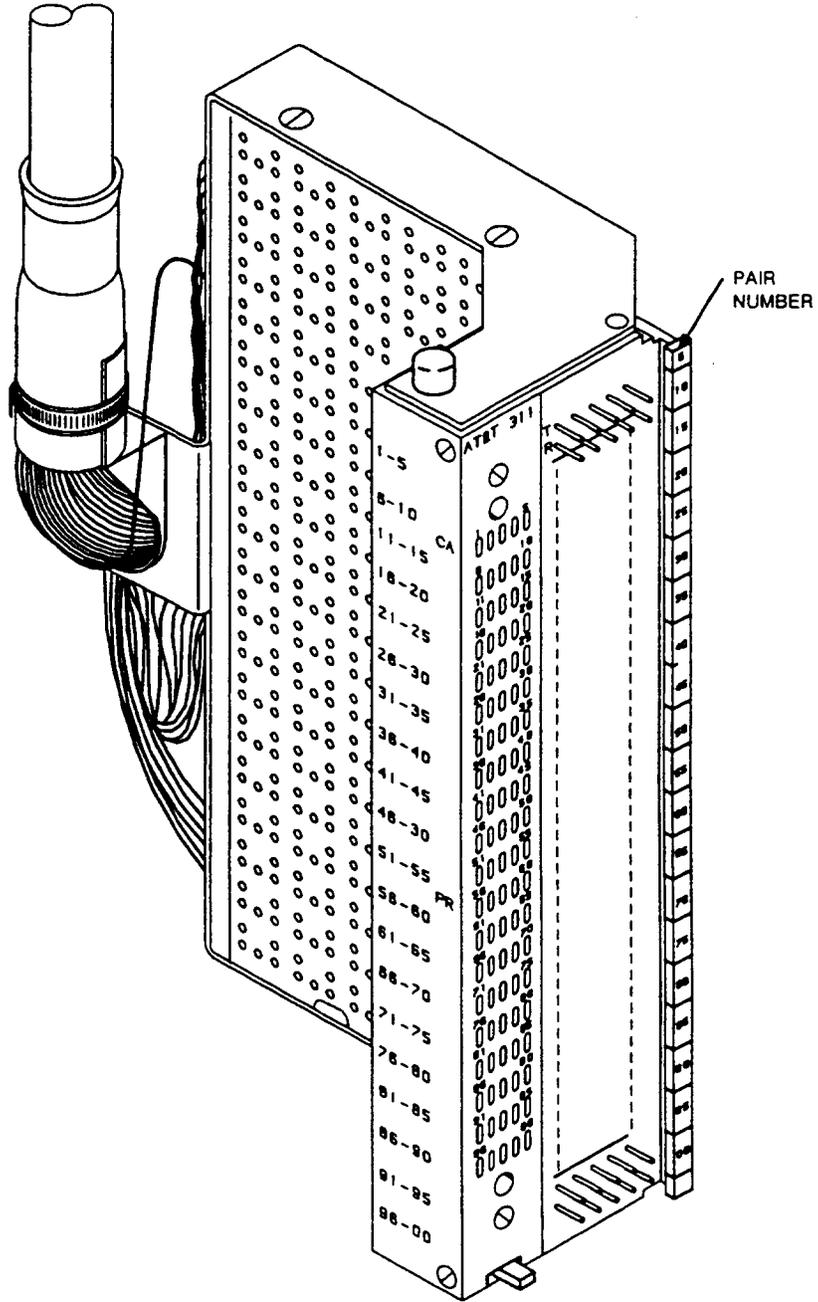

Figure 7. Marking Cable and Pair Numbers
3.10 Use the B or W transfer stenciling kit, as described in AT&T 081-860-105, for marking the cable and pair numbers. The **MERLIN EXPRESS**[®] lettering machine can also be used for marking the cable and pair numbers. The 311-type connector is marked in a manner similar to that shown in Figure 7.